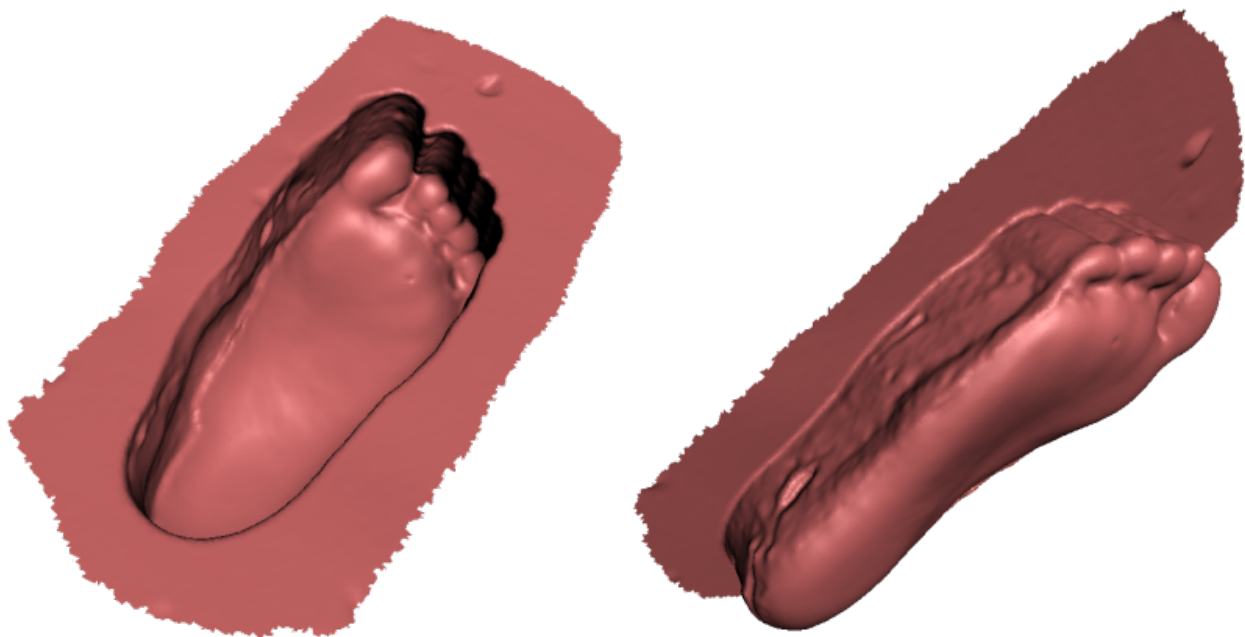

Figure 173: Normal inversion application: obtaining a foot model (right) from its cast (left).
*Normal inversion* allows one to turn the model inside out. This operation may be useful when you need to manufacture some mating parts, like molds; or obtain a model based on its cast (e.g., turn the footprint cast into a shoe last, see Figure 173).